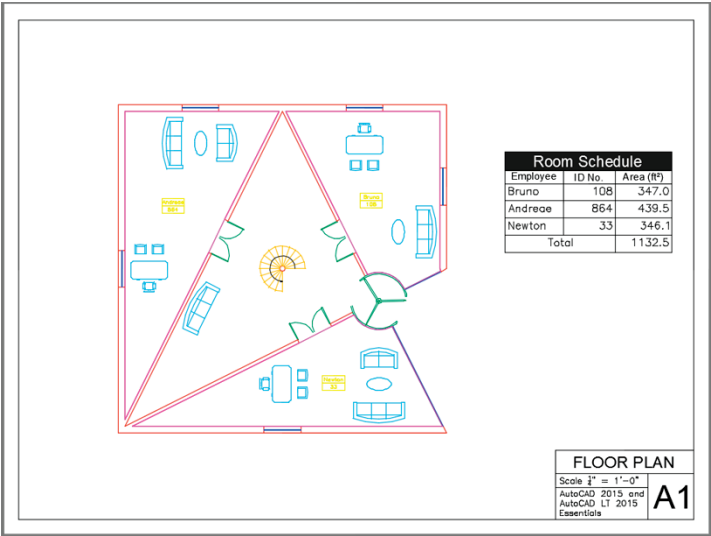

FIGURE 15.34 The final appearance of the drawing
16. Select the Output tab, and click the Preview icon on the Plot panel. The gray background in the fields disappears and you see the table exactly as it would plot (see Figure 15.34). Press Esc to exit preview mode.